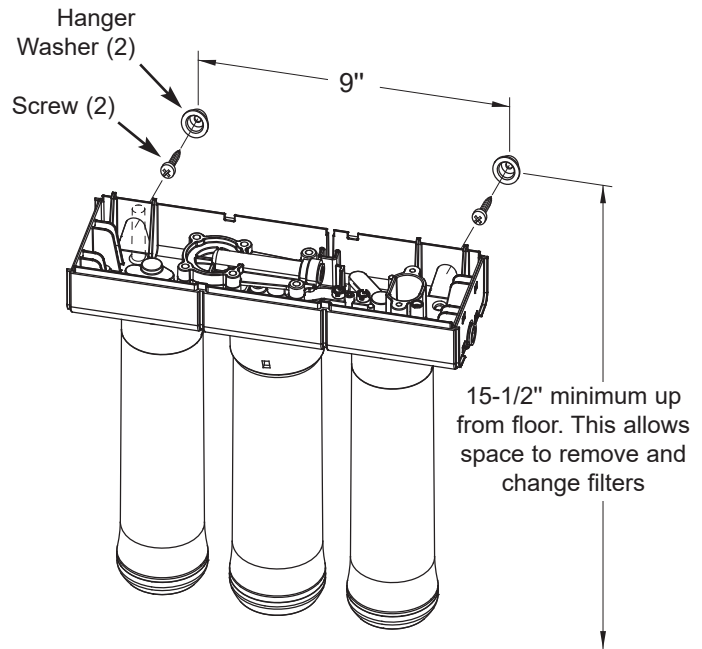

FIG. 13
See Fig 13. The hanger washers allow you to lift the filter assembly from the washers without any hardware removal. When planning your installation, you need to leave room for changing filters.
2. Locate mounting slots on back inside of the assembly. See Fig 13.
3. Hold the assembly up to the wall surface and mark locations for the hanger washers. See Fig 13. Mount the unit high enough to allow room to change filters without taking the unit off of the wall.